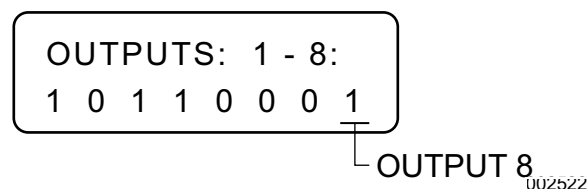

Figure 2-3. The Output Screen – Output 8
5. See **Figure 2-3**. Using the appropriate menu map, access the OUTPUTS display via the DEALER menu.